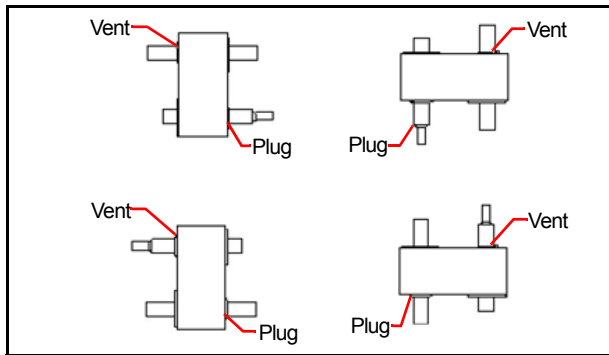

Figure 5-22 Right-hand Iso-Drive Case in Different Mounting Positions
1. Referring to Figure 5-22, determine the mounting position of the drive for placement of the vent and plug.